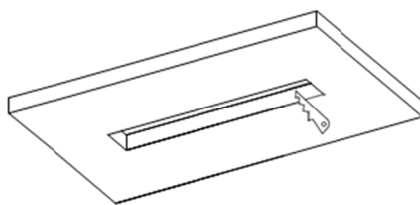

Fig. 1
1. Select the suitable ceiling cut-out size according to the fixture model, and open the installation holes on the ceiling in advance, as shown in Figure 1.